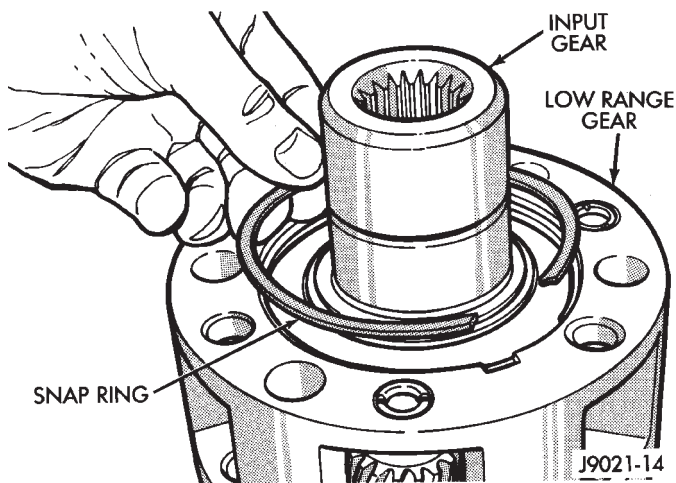

Fig. 26 Removing Low Range Gear Snap Ring
(36) Remove low range gear snap ring (Fig. 26).